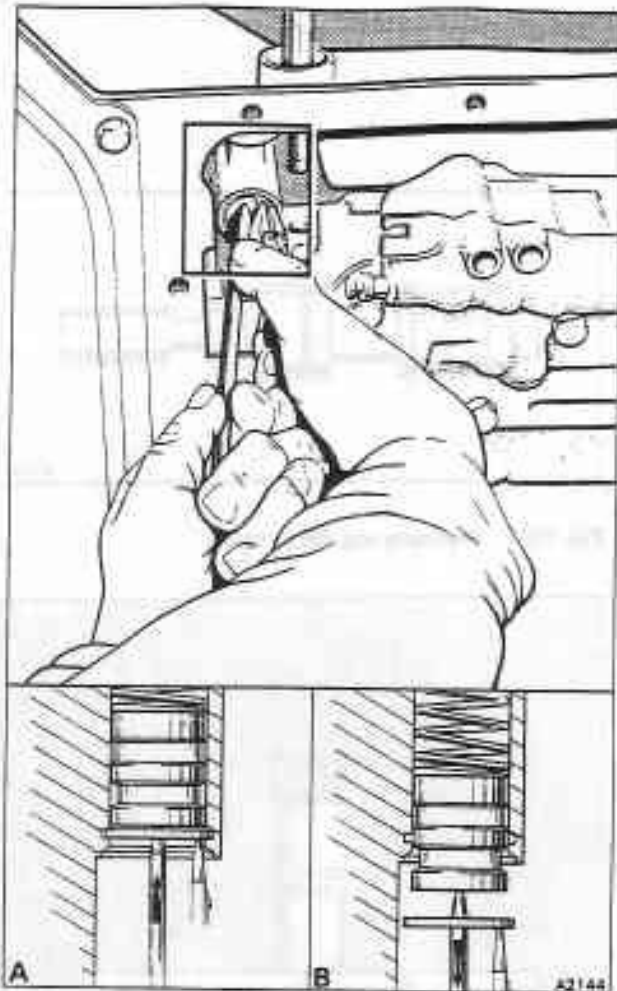

Fig. T5-3 Removing the pressure regulator valve
12. Using a screwdriver or a steel rod, push the regulator boost valve sleeve against the pressure regulator spring (see fig. T5-3).